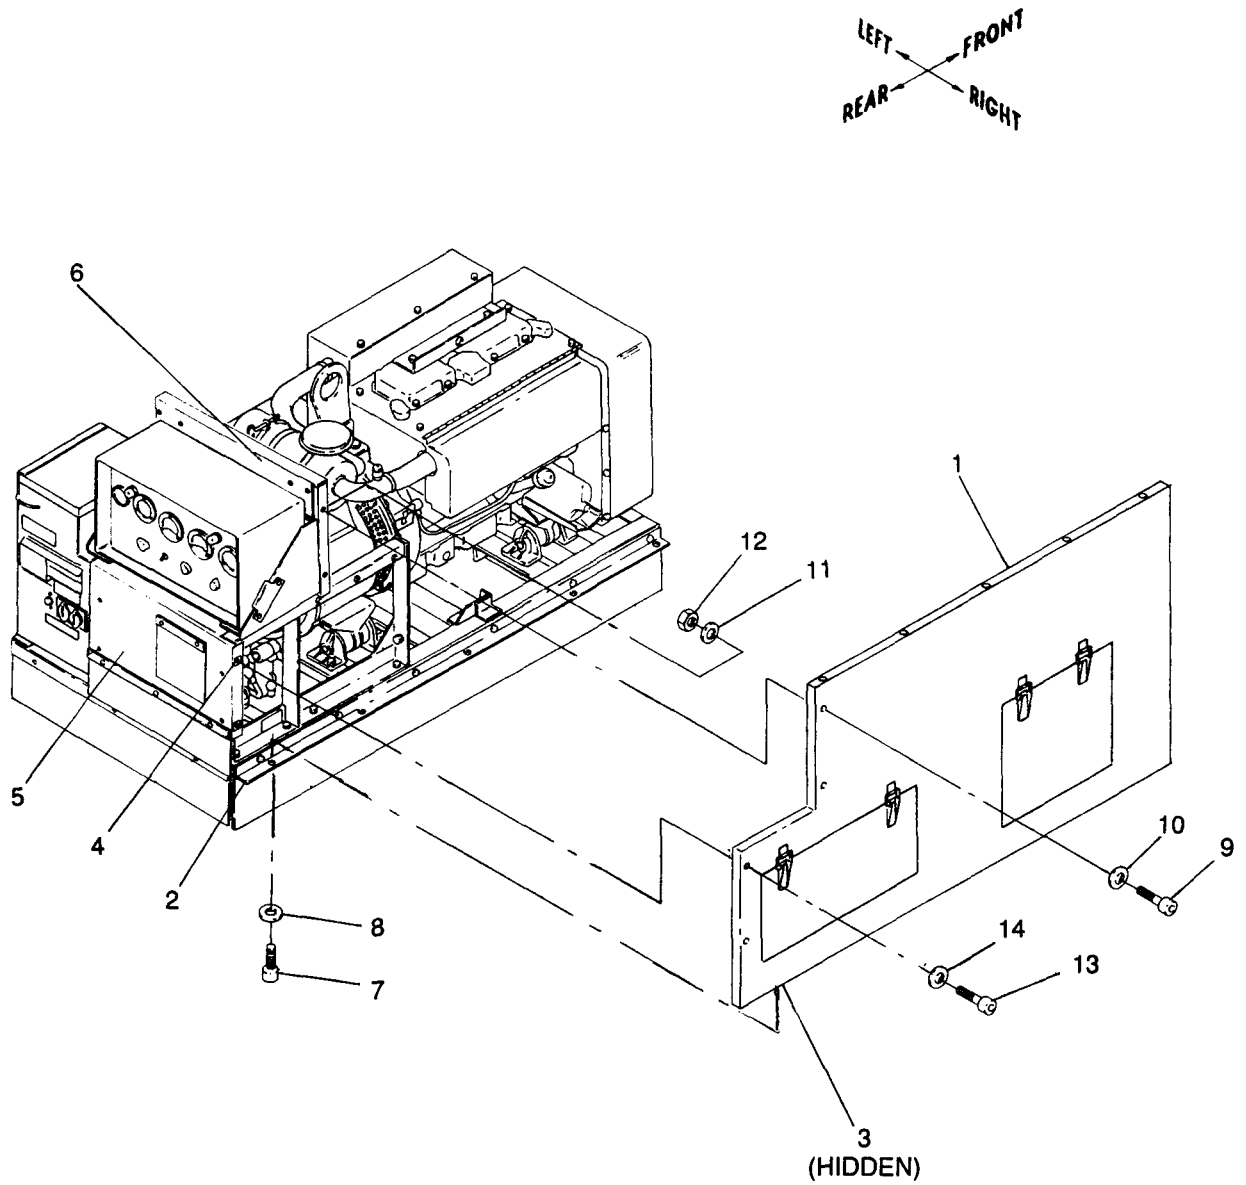

Figure 10-5. Installation of Right Panel Assembly
(1) Refer to figure 10-5 and clear out acoustic fill from holes in right panel assembly (1) using 3/8 inch diameter pin.
(2) Locate right panel assembly (1) on right support assembly (2) by aligning captive nuts (3) in right panel assembly (1) with holes in right support assembly (2). Align captive nuts (4) in rear panel assembly (5) with holes in right panel assembly (1). Align holes in right panel assembly (1) with holes in rear closure assembly (6).
(3) Install right panel assembly (1) to right support assembly (2), with five screws (7) and five washers (8). Install right panel assembly (1) to rear closure assembly (6) with two screws (9), four washers (10 and 11) and two locknuts (12). Install right panel assembly (1) to rear panel assembly (5) with two screws (13) and two washers (14) (as listed in table 10-1, item 9).
(4) Torque screws (7) and screws (13) to 18 \pm 2 in.-lbs dry.
(5) Torque screws (9) to 16 \pm 2 ft-lbs dry.